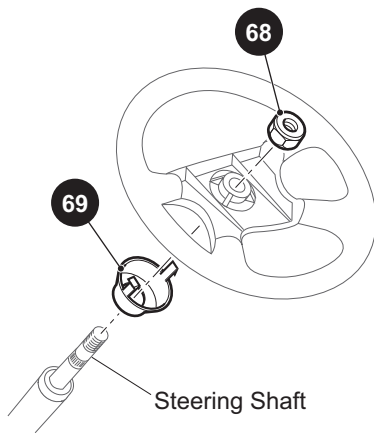

Fig. 20 Steering Wheel Replacement
- Loosen the steering wheel retaining nut (68) two to three turns until the threads on the steering column shaft are protected (Ref Fig. 20).
5. When the steering wheel is loose, remove the retaining nut (68) and remove the steering wheel (90).
6. Prior to replacement, assemble the replacement steering wheel by aligning the retaining tabs on the rear collar hub (69) with the slots in the back of the steering wheel (Ref Fig. 20).
10. Tighten the steering wheel nut (68) to the torque values below.
11. Inspect the four retaining tabs on the clipboard (5) for white stress lines. If stress lines are present, replace the clipboard with a new one.